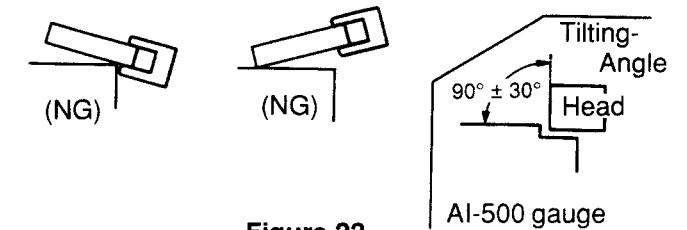

Figure 23
- (4) Adjust the height of the head as shown in Figures 23, 24 and 25.
- ① Place the height adjustment gauge (AI-500) on the head base, and adjust the height so that the check bar fits in the tape head guide smoothly.
- ② When the check bar touches the top (or bottom) of the tape guide, insert a spacer (t 0.1 mm or polislider washer t 0.13 mm). If necessary, remove the spacer.